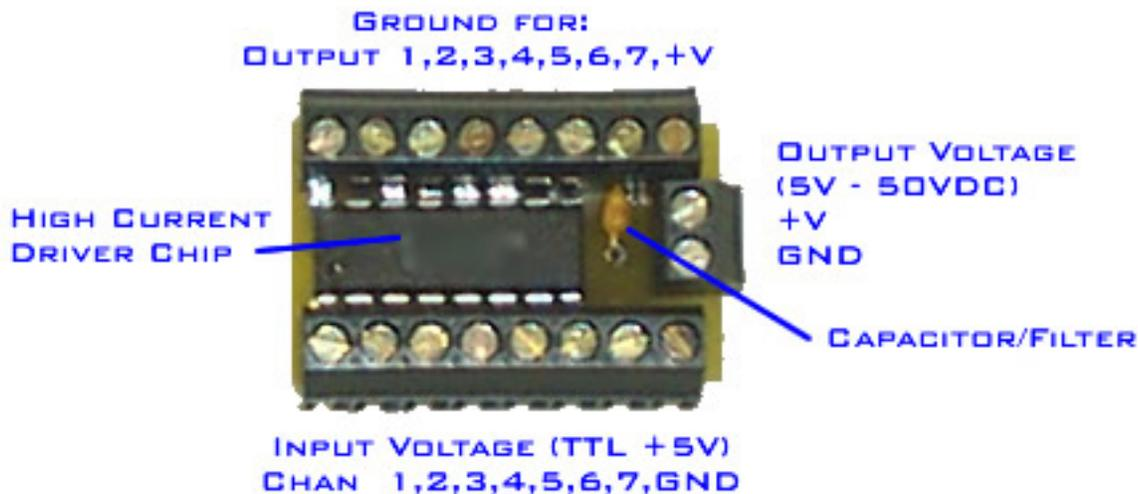

Figure 5: TTL High Current Driver without LEDs
1. Start by laying the board out in front of you. The Label should be on the bottom right topside. Refer to Figure 5.
2. Insert the capacitor as shown in Figure 5. Orientation is not important.
3. Install the Screw Terminals (if provided) as shown in Figure 5.
4. Insert the high current driver IC. The orientation is important. The chip will be shorted and will not work if put in wrong. Pin one goes in the square pad hole such that the notch on the chip is closest to the label on the board. Refer to Figure 5.
5. Attach 5-50VDC to the Output Voltage using the polarity shown in Figure 5. Turn on the power, no sparks or smoke should appear at this time.